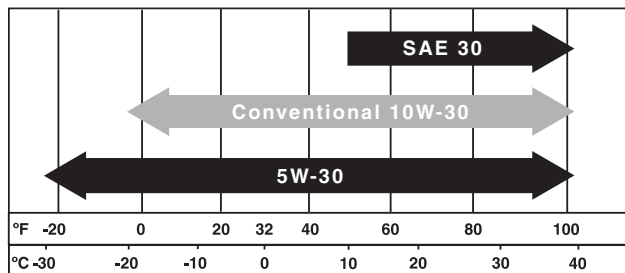

Figure 7-2 – Recommended Oil
SAE 10W-30 is recommended for general temperature use. See Figure 7-2 for information on other viscosities that may be used. Other viscosities shown in the chart may be used when the average temperature in your area is within the indicated range.
6. Select the proper engine oil as specified in Figure 7-2.